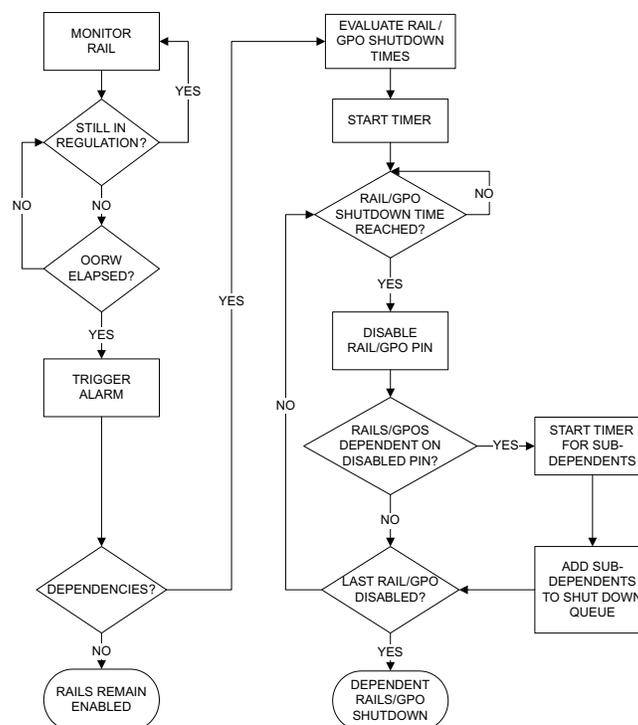
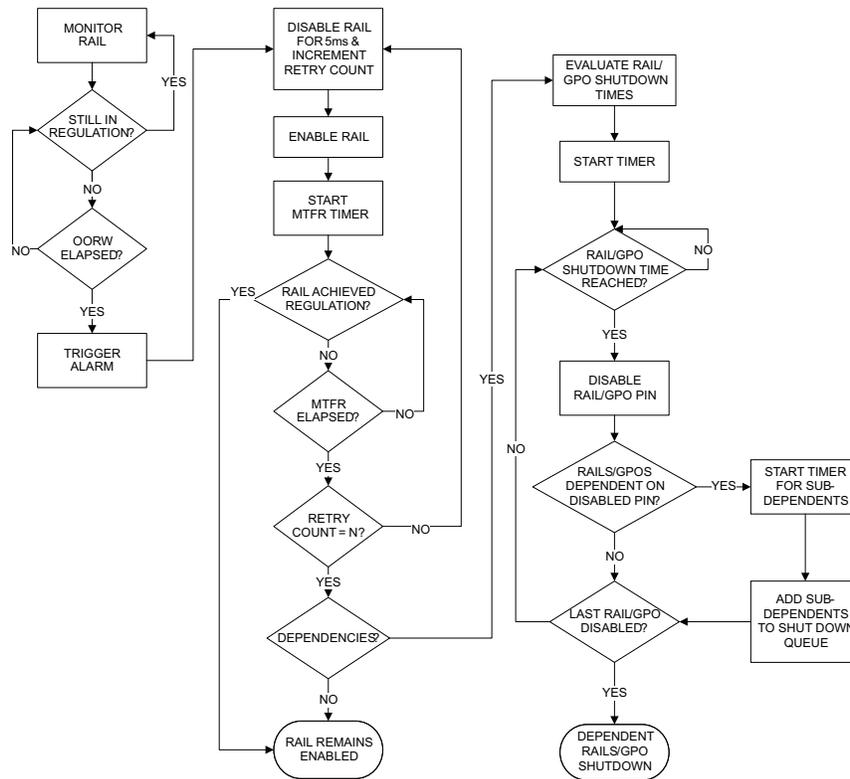

Figure 10. Flowchart for Retry 0 Times
Figure 11. Flowchart for Retry n Times
- **Parent (V)** – voltage the parent rail must reach before the current rail is enabled.
- **Retry n Times** – continue to retry this rail for a configurable number of times ($n = 0, 1, 2, 3, 4$), then shut down according to the configured Rail and GPO Dependencies and the Shutdown Delays. If **Retry** is selected and the UCD9081 detects a fault, the following procedure takes place (Figure 10 and Figure 11):